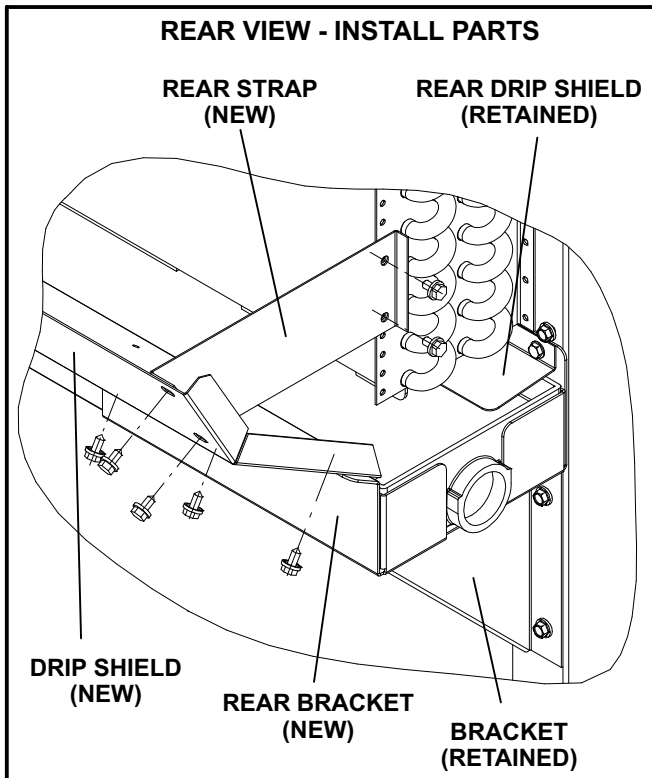

FIGURE 4
- 3- Install the rear bracket provided in kit. See figure 4.
- 9- Install the new drip shield and secure to the front and rear strap. See figure 4 and 5.